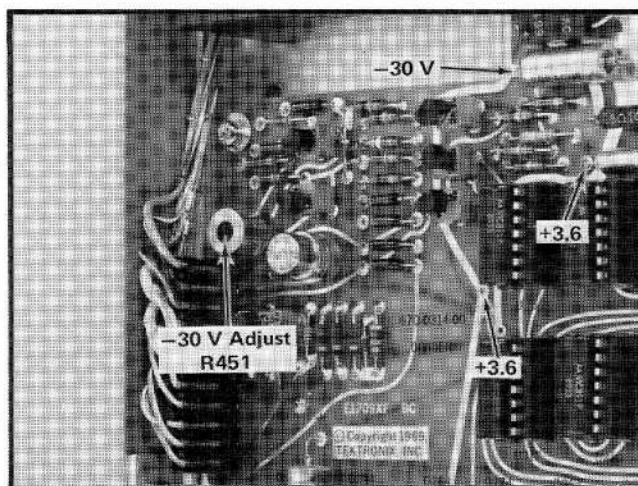

Fig. 5-2. Power supply voltage test points and adjustments.
- Connect the DC voltmeter between the —30 V buss or terminal and chassis ground (see Fig. 5-2).
- ADJUST —30 Volt Adjust R451 (Fig. 5-2) for —30 volts.
- Connect the DC voltmeter and the 1X probe from the test oscilloscope to the —30 volt buss (see Fig. 5-2).
- Connect the DC voltmeter and the test oscilloscope probe to the +3.6 V buss or terminal (Fig. 5-2).